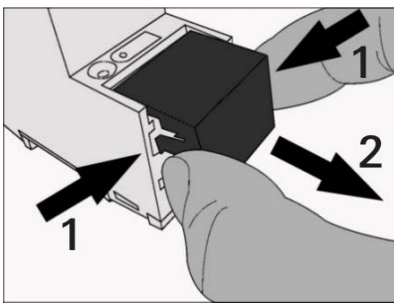

Figure 27: Removing the cover cap
1. Gently press in the cover cap at the side (figure 27, pos. 1).
2. Pull off the cover cap upwards (figure 27, pos. 2).